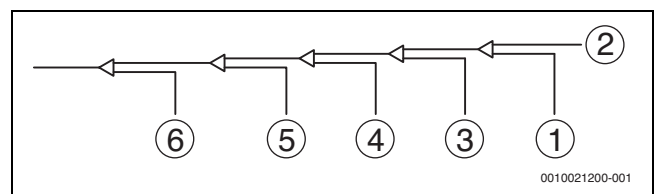

Fig. 33
8. Flush the other openings in the same manner, working in sequence from indoor unit A towards the outdoor units. Refer to Figure 33.